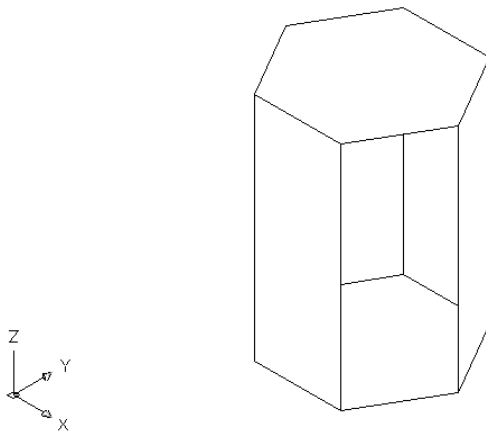

Figure 23-9: The completed hexagonal night table.
5. Save your drawing. It should look like Figure 23-9.